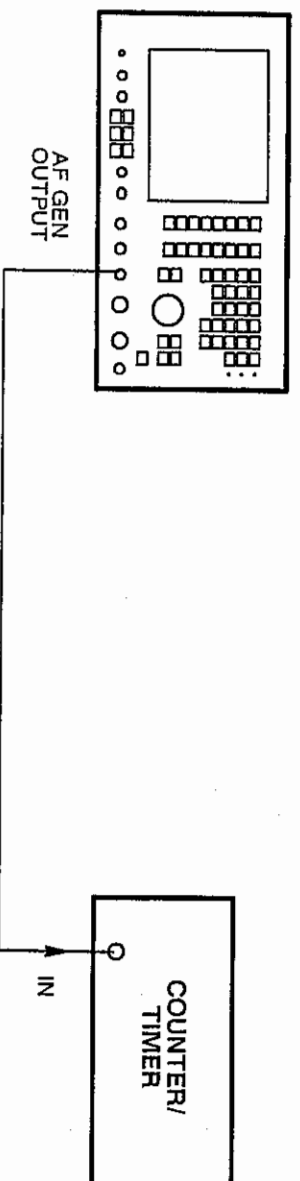

Fig. 6-14 Test equipment connections for AF generator frequency accuracy
- (1) Connect the counter/timer to the AF GEN OUTPUT socket. See Fig. 6-14.
- (2) On the 2955A, set the MODE to AUDIO TEST. Ensure that GEN 1 is ON and GEN 2 is OFF. Press the TONES and AUDIO SETUP keys. Set the GEN 1 FREQ to 15 kHz, LEVEL to 1 V and SHAPE to SINE.
- (3) Set the counter/timer to read period (to gain the required resolution).
- (4) On the counter/timer, check that the reading is between 66666.2 and 66667.1 ns (15 kHz  $\pm 0.1$  Hz).
- (5) Reset the GEN 1 FREQ to other frequencies between 100 Hz and 20 kHz and repeat (4) except check that the counter/timer readings are the same as the GEN FREQ setting  $\pm 0.1$  Hz.
- (6) Reset the GEN 1 FREQ to other frequencies between 10 Hz and 100 Hz and repeat (4) except check that the counter/timer readings are the same as the GEN FREQ settings  $\pm 0.01$  Hz.